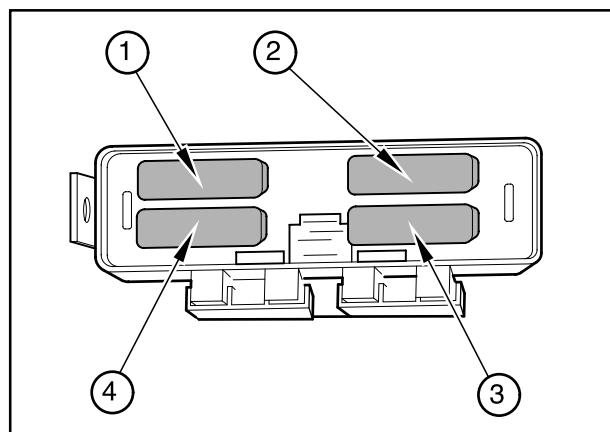
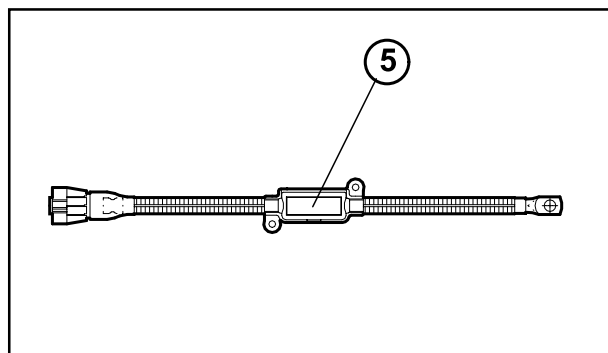
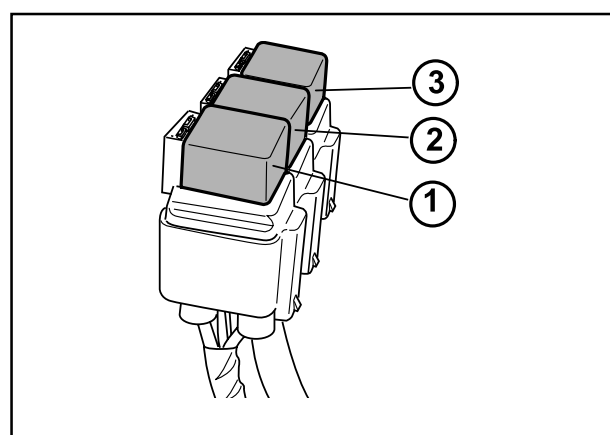

Fig.5-46 Fuse in the battery chamber
Fig.5-47 Fuses on the alternator wire
Fig.5-48 Relays in the battery chamber
- C - Fuse in the battery chamber (Fig. 5-46; Fig.5-47; Fig.5-48).
The fuses in the fuse box in the battery chamber are valid for all models (Fig. 5-46; Fig.5-47; Fig.5-48).
Relays in the battery chamber - Fig. 5-48